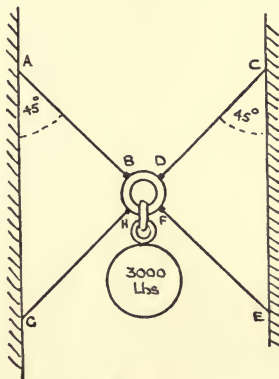

Fig. 4.
6. A ring is supported by 4 wires  $AB$ ,  $CD$ ,  $EF$ ,  $GH$  (see Fig. 4). Each wire is 40 inches long, 0.1 square inch in section and is initially stretched to a tension of 1 ton. A load of 3000 lbs. is then hung from the ring, find the tension produced in each wire and the vertical deflection of the load.